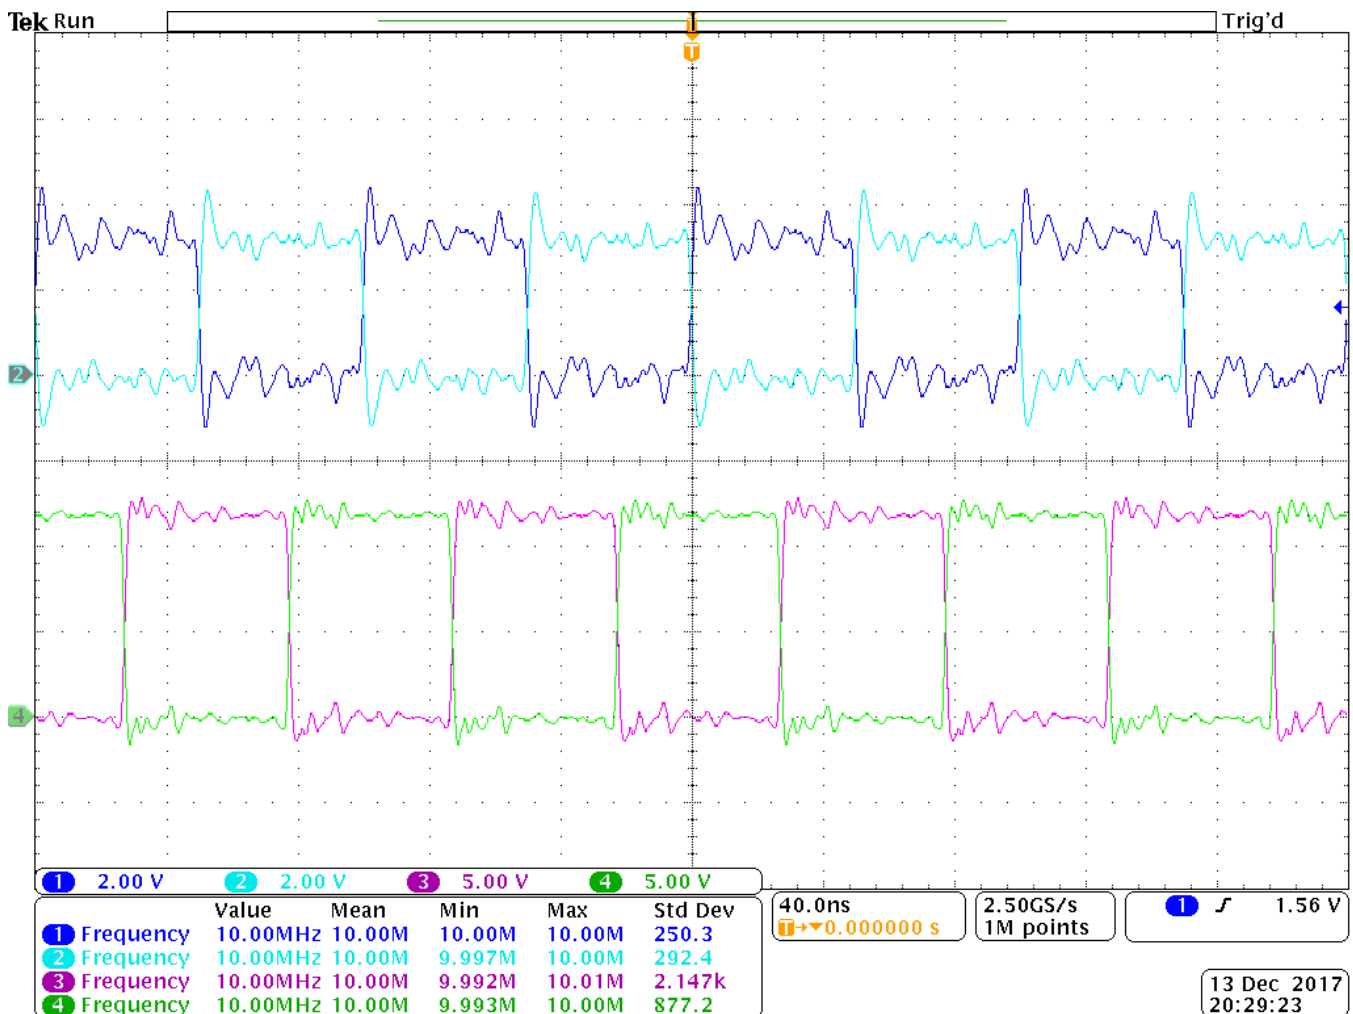

Figure 3. Example Input and Output Waveforms (Inputs: CH1 and CH2, Outputs: CH3 and CH4)
1. Before proceeding with the power up test procedure, ensure that the steps in Section 4.2.6 are complete. Figure 3 can be used as a reference.
1. Stable pulse output appears on channel 1 and channel 2 in the oscilloscope, see Figure 3.